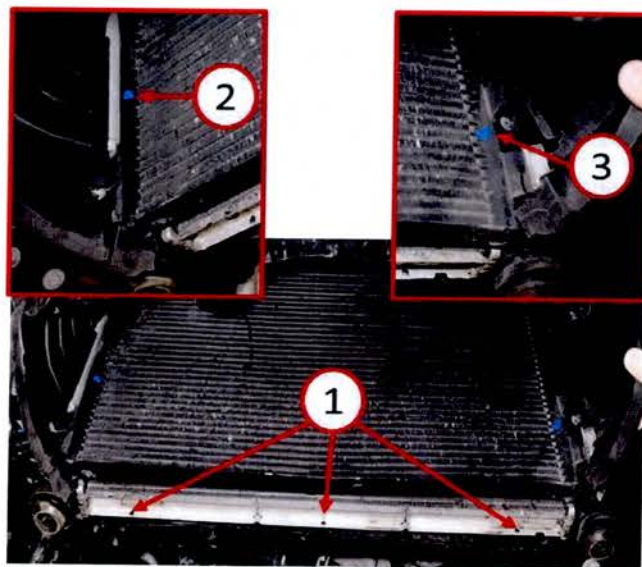

Fig. 2 Condenser Preperation
6. Carefully remove the lower plastic shroud that covers the bottom gap between the radiator and condenser by using a pick to pull the cover hole away from the retaining tabs (1) along the edge (Fig. 2).
7. Viewing the condenser from the front of the vehicle count 12 rows up the passenger side of the condenser from the bottom of the condenser core and mark (2) the location of the 12th row (Fig. 2).
8. Measure out from the passenger side edge (2) of the condenser core 2-1/8"(54mm) and mark the location in the 12th row of the condenser.
9. Viewing the condenser from the front of the vehicle count 8 rows up the driver side of the condenser from the bottom of the condenser core and mark (3) the location of the 8th row (Fig. 2).
10. Measure out from the passenger side edge (2) of the condenser core 21"(532mm) and mark the location in the 8th row of the condenser.